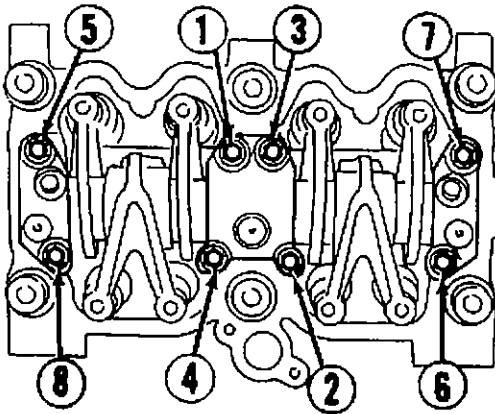

Fig. 7: Rocker Bolt Tightening Sequence
1) Disconnect PCV hose, and remove rocker cover. Remove rocker bolts No. 2-4 in order. See Fig. 7. Loosen, but DO NOT remove, bolt No. 1. Remove bolts No. 5-8. Remove rocker arm assembly.
3) To install, reverse removal procedure. DO NOT allow rocker arm assembly to gouge dowel/alignment pins. Tighten bolts in sequence and to specification. See Fig. 7. See TORQUE SPECIFICATIONS table at end of article.